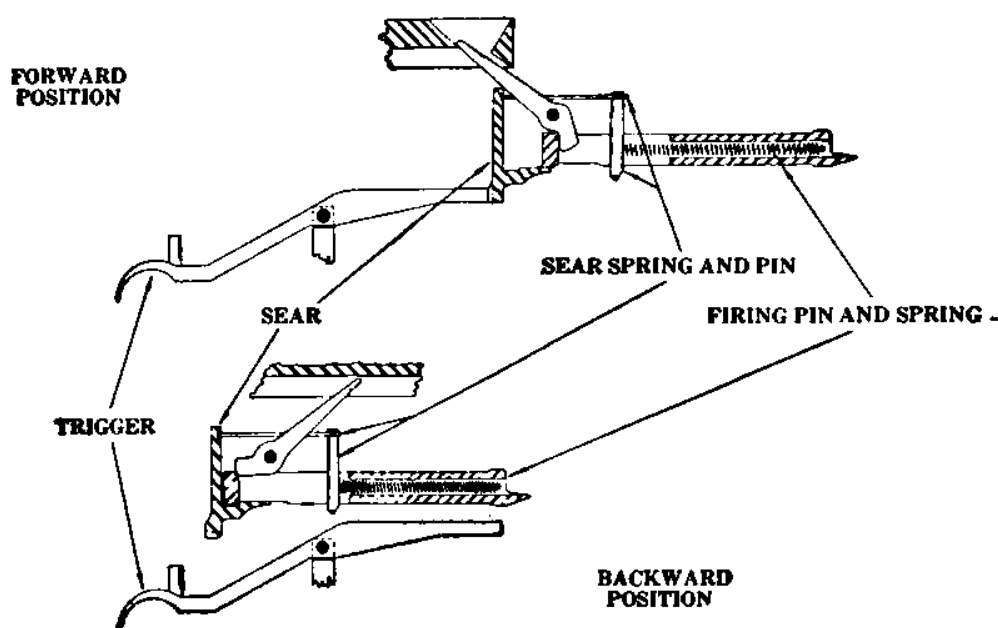

FIGURE 13.—Cocking mechanism.
■ 39. COCKING ACTION (fig. 13).—As the bolt moves backward, the upper end of the cocking lever is forced forward in the cocking lever recess, bringing the lower end to the rear. The lower end brings with it the firing pin, thus compressing the firing pin spring against the sear spring pin.